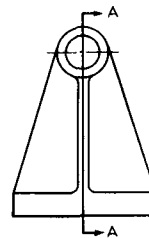

Fig. 3.81
11. Sketch sectioned views as indicated in Figs 3.81 and 3.82.